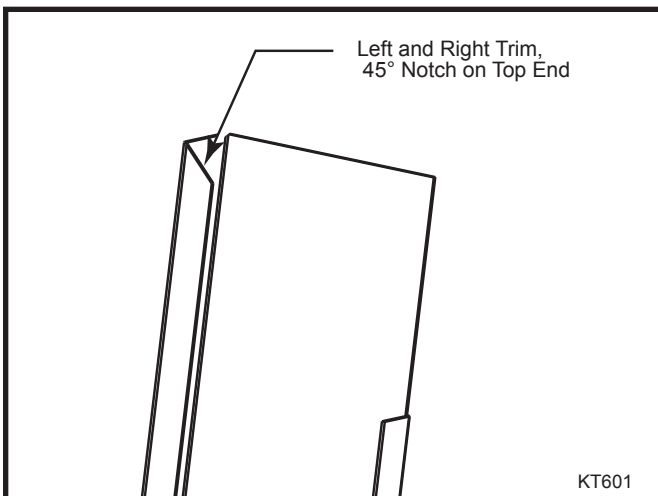

Fig. 56 The right and left trim pieces have a 45° notch on the back corner of the top end when properly installed.
2. The right and left trim piece have a 45° notch on the back corner of the top end. (Fig. 56) Place the right trim against the right side of the window frame, making sure the bottom is overlapping the bottom trim piece. The right side of the trim should butt up against the right side nailing flange of the fireplace.